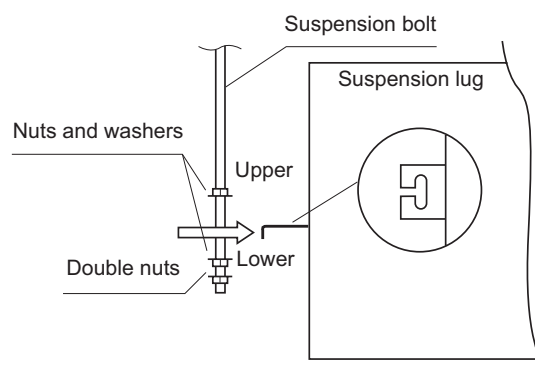

Fig. 2-182
- Thread the 3 hexagonal nuts and 2 washers (field supply) onto each of the 4 suspension bolts as shown in Fig. 2-182. Use 1 nut and 1 washer for the upper side, and 2 nuts and 1 washer for the lower side, so that the unit will not fall off the suspension lugs.